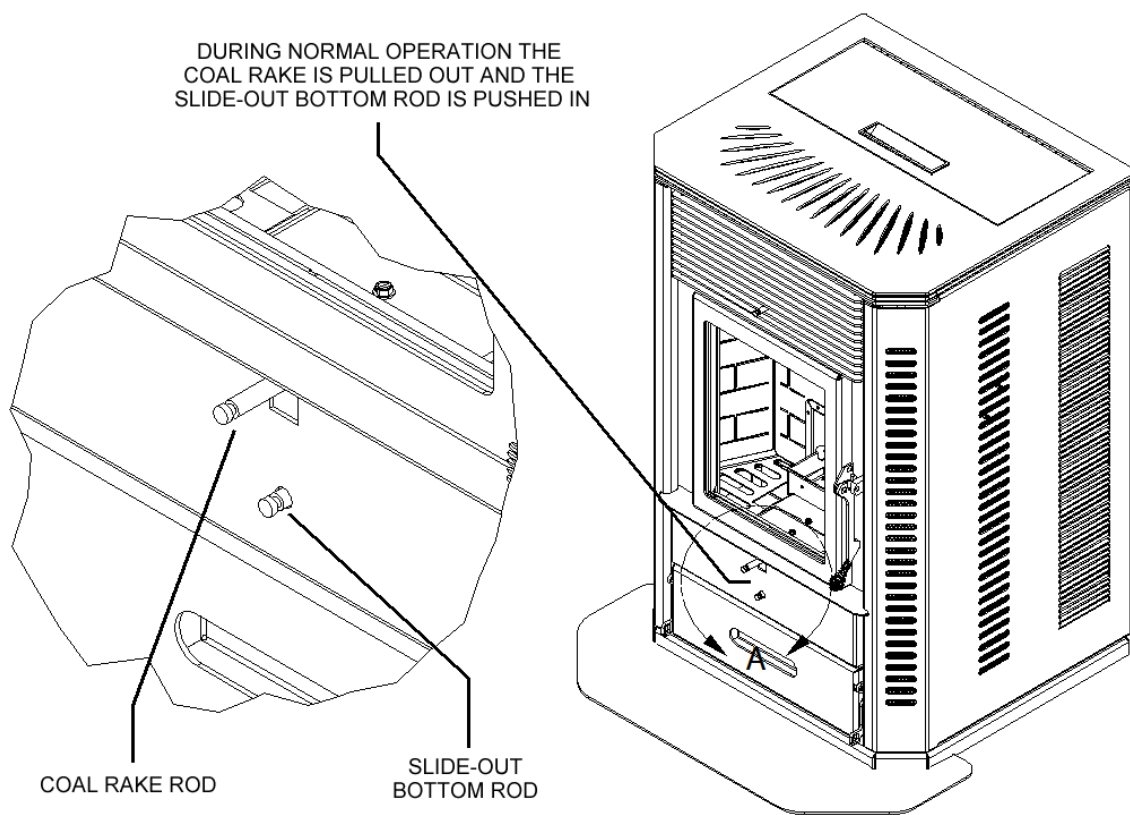

Figure 24
1. **The Coal Rake.** The first step is to push the coal rake in and separate the coals from the clinker. Once this is done, open the door and add a ¼ cup of pellets on top of the coals. To push in the Coal rake, use the Rod Handle tool that came with the unit. (See figure 24 and 25).